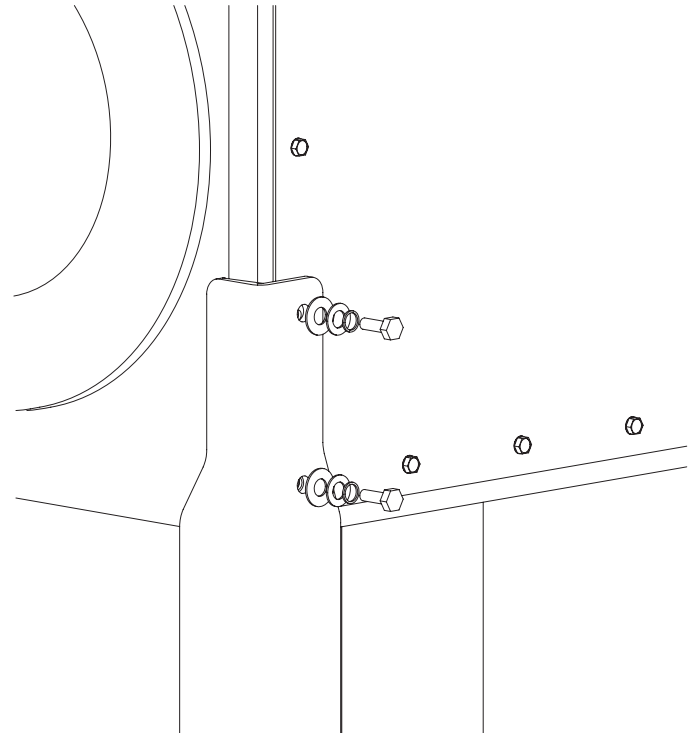
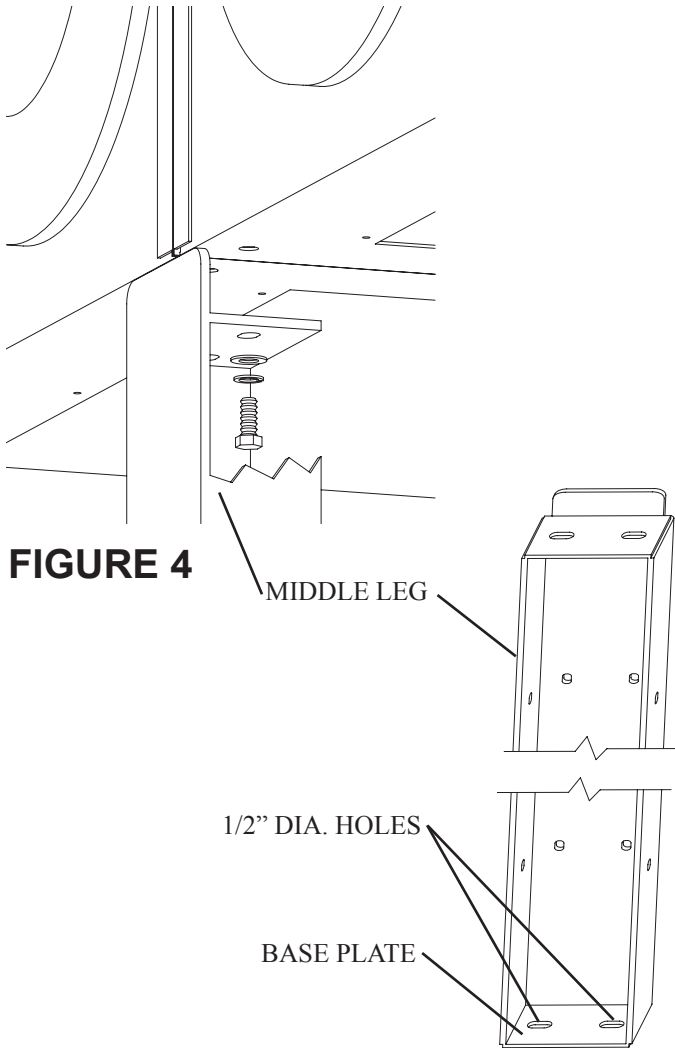

FIGURE 3
FIGURE 4
3. Bolt on each of the legs. The two lower bolts at each corner will be removed and used to attach each corner leg (see Figure 3). Attach middle legs with provided hardware (see Figure 4).